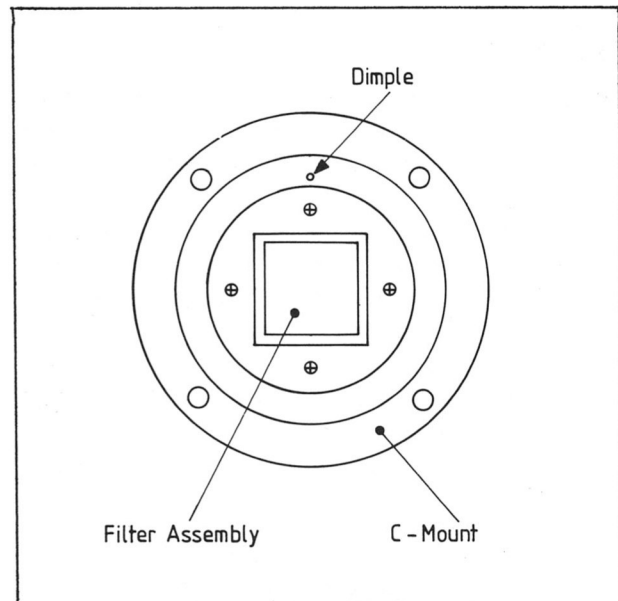

Fig. 3.18 C Mount Lens Mounting
2. When replacing the C-mount plate, ensure that the locating dimple is correctly positioned at the top as shown in Figure 3.18
- (4) When replacing the lens mount (C mount), ensure that the dimple (Fig 3.18) is correctly positioned at the top.
- (5) Gather the previously freed wires and fit a new harness band.
- (6) Having replaced the DY or vidicon, carry out the alignment procedure (Section 7.2).